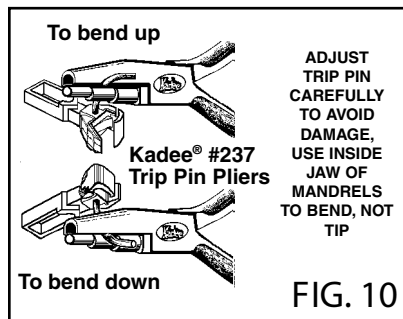

FIG. 10
4. Check Coupler Trip Pin height using a .046" or 3/64" thick piece of metal or plastic as a gauge. Place this gauge across rails. Set car on track and roll car up to gauge. Trip Pin should just skim over top of gauge. If Trip Pin is too high or too low, adjust as shown in Fig. 10. Trip Pin standard S-Scale height is 1/16" above rail top.